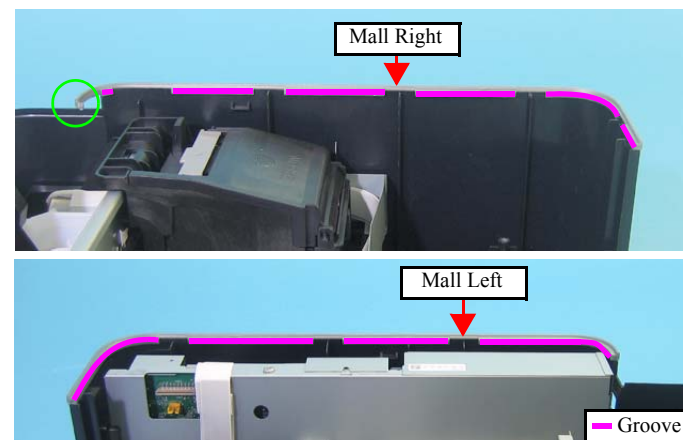

Figure 4-14. Installing the Upper Housing (1)
8. Remove the Mall Right and the Mall Left from the Lower Housing (Refer to Figure 4-14).